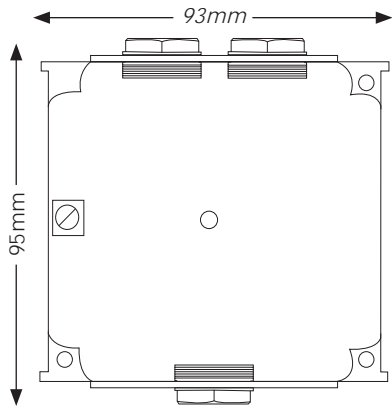

Fig 1 Backbox
1. Fit the backbox to a flat surface using the three fixing holes and screws provided. The cable entry holes should be in the vertical plane. The backbox can be mounted with either the single or double entry holes at the top. (Fig 1).